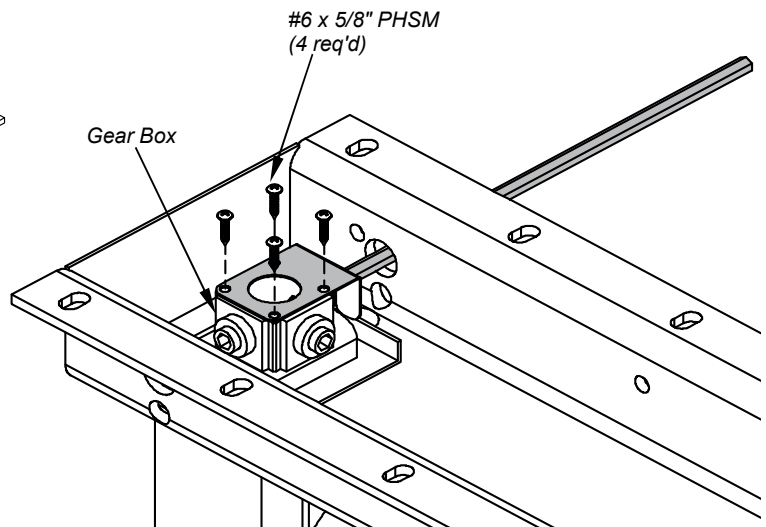

Figure 1B
- Insert the drive shaft assembly through the hole as shown and attach to the gear box with the (4) #6 x 5/8" PHSM screws included with the drive shaft. **Figure 1B**.